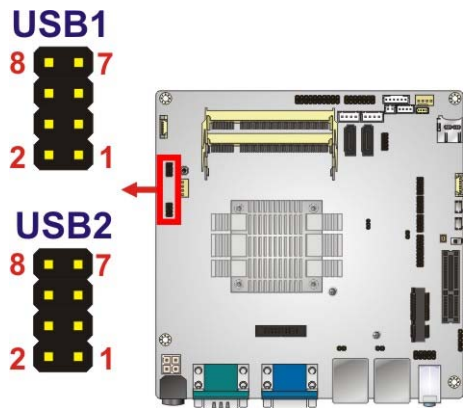

Figure 3-28: USB 2.0 Connector Locations
- CN Location:** See **Figure 3-28**